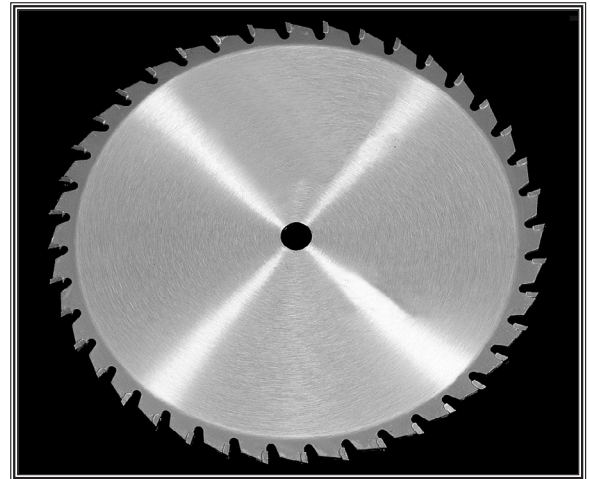

Figure 34. Crosscutting blade.
- Crosscutting blades (**Figure 34**) are designed for quick, smooth action when making cuts across the grain. Drawbacks of this type of blade are buildup of heat, slower feed rates and premature wear of the blade because the greater number of teeth creates more friction.